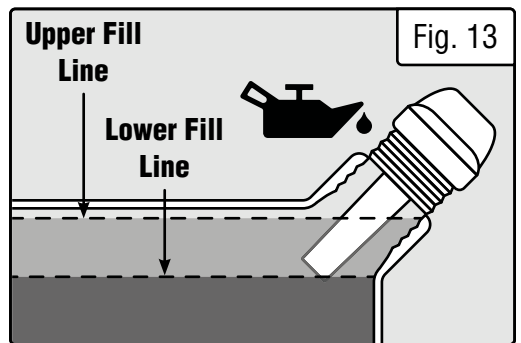

Fig. 13
3. Using a funnel, add the appropriate type and amount of oil into the crankcase. Fill the crankcase to the upper fill line so you can visually see the oil coming halfway up the oil fill threads (Fig. 13).